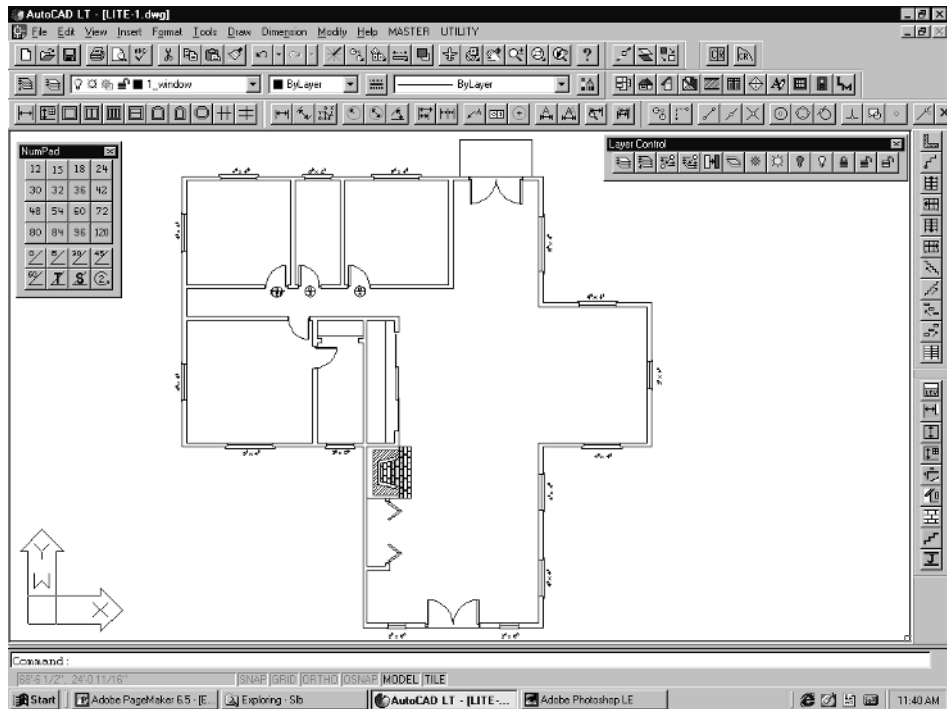

Figure 6-56
2. Pick on one of the dimensions. This should turn off all the dimensions. Do the same for any other layers you want to turn off. See Figure 6-56.